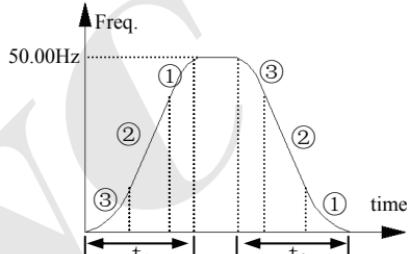

Fig. 7-2 S curve acc/dece
**1: S curve acc/dece mode.** Output frequency raise or decline as the S curve: as fig.7-2.
S curve starts interval time as fig.7-2 ③, output frequency changed slope increase slowly from zero.
S curve up interval time as fig.7-2 ②, output frequency changed slope is constant.
S curve ends interval time as fig.7-2 ①, output frequency changed slope decrease slowly to zero.